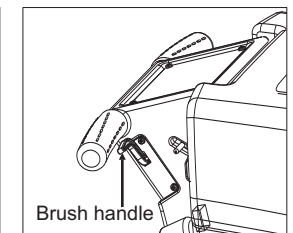

fig. 6
- ③ Switch on the machine and hold on the brush handle to assemble the brush(fig. 6).